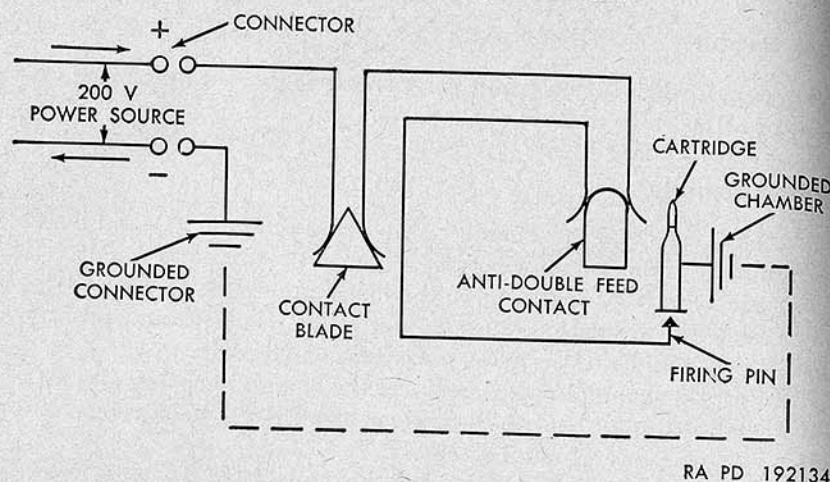

Figure 94. Circuit diagram of gun.
b. *Course of the Current.* When the contact blade is in place, the current passes through it to the other contact (fig. 94). It then goes to one of the contacts on the antidouble feed contact box. With the contact of the antidouble feed in place, the current is directed to the firing pin, then to the cartridge primer. The primer is grounded to the cartridge case and thereby to the drum and gun, completing the circuit back to the connector which is also grounded to the gun. To test the continuity of the circuit described, a series of checks are given below. The use of an ohmmeter is necessary for performing the test. The step by step checking of components of the circuit, and then the completely assembled circuit, assures the finding of the source of trouble immediately.
- (2) Short the blade contacts by inserting a screwdriver between them. Touch one pole of the ohmmeter to the center prong of the connector and other to the contacts of the antidouble feed contact box (fig. 67). The needle should deflect on the meter dial only when one contact is touched. If the needle deflects when either contact is touched, a complete circuit is indicated from the connector through the blade contacts to the antidouble feed contacts (fig. 94).